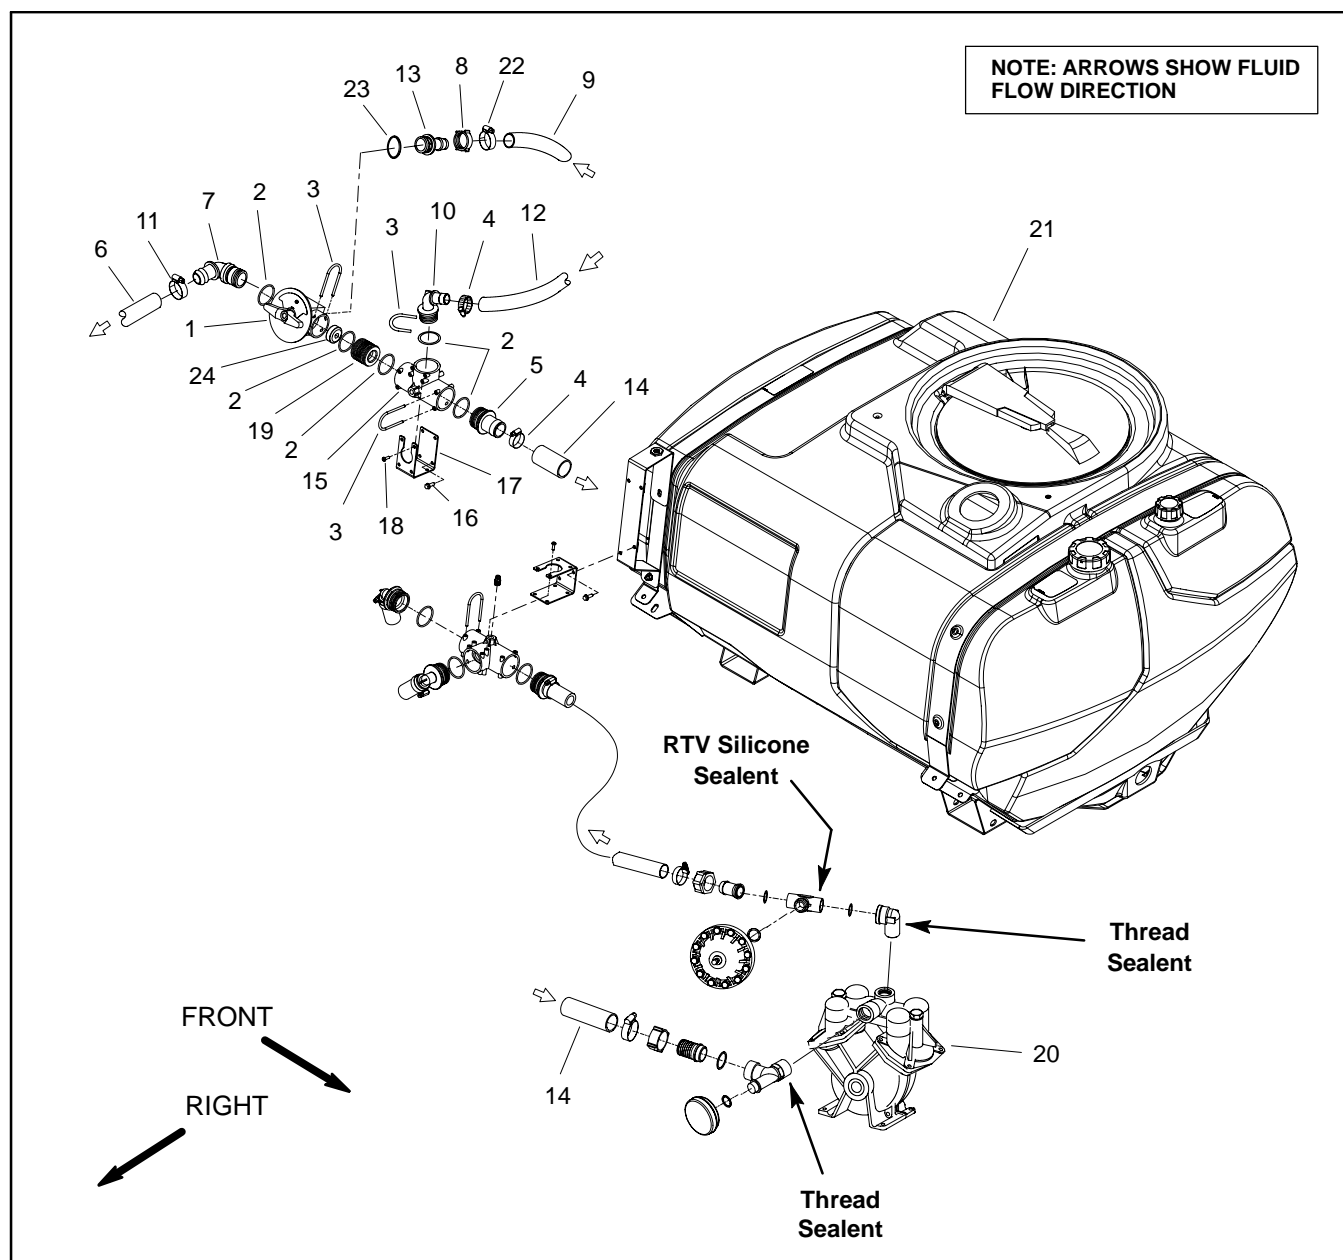

Figure 16
Removal (Fig. 16)
3. Remove agitation control valve using Figures 16 and 17 as guides. If agitation reducer (item 24) is removed, note direction of chamfer on reducer for assembly purposes.
Installation (Fig. 16)
2. Install agitation valve using Figures 16 and 17 as guides.